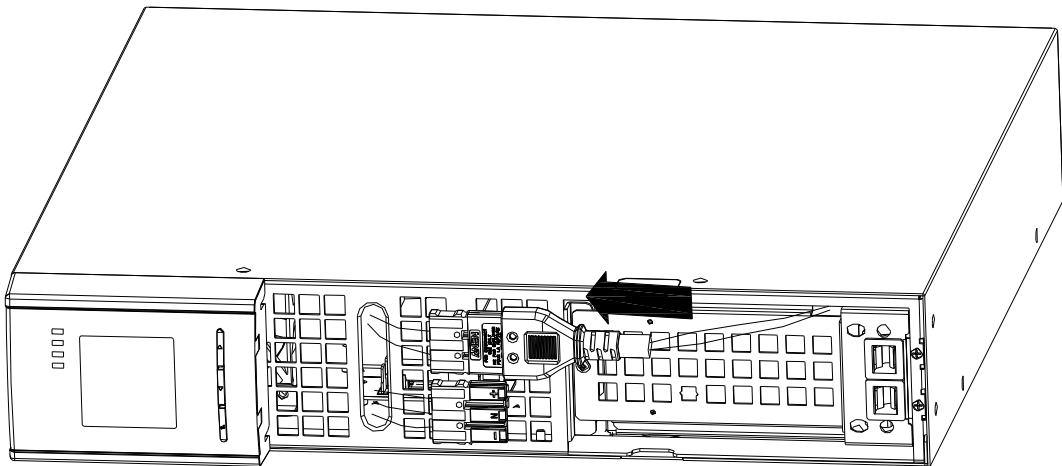

FIG. 7 Connecting the UPS Internal Batteries
2. Connect the internal battery connector (see FIG.7)